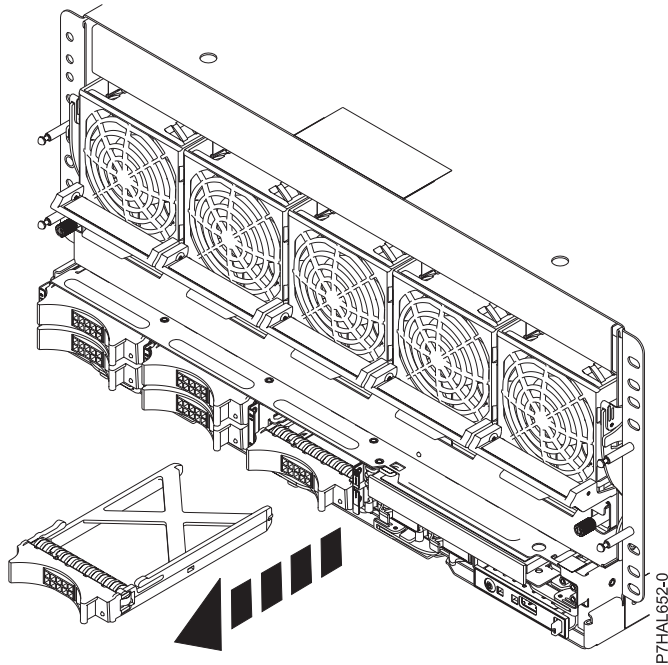

Figure 46. Removing a disk drive filler from the system
2. Hold the filler handle **(A)** and pull out the disk drive filler from the slot, as shown in Figure 46 on page 73.